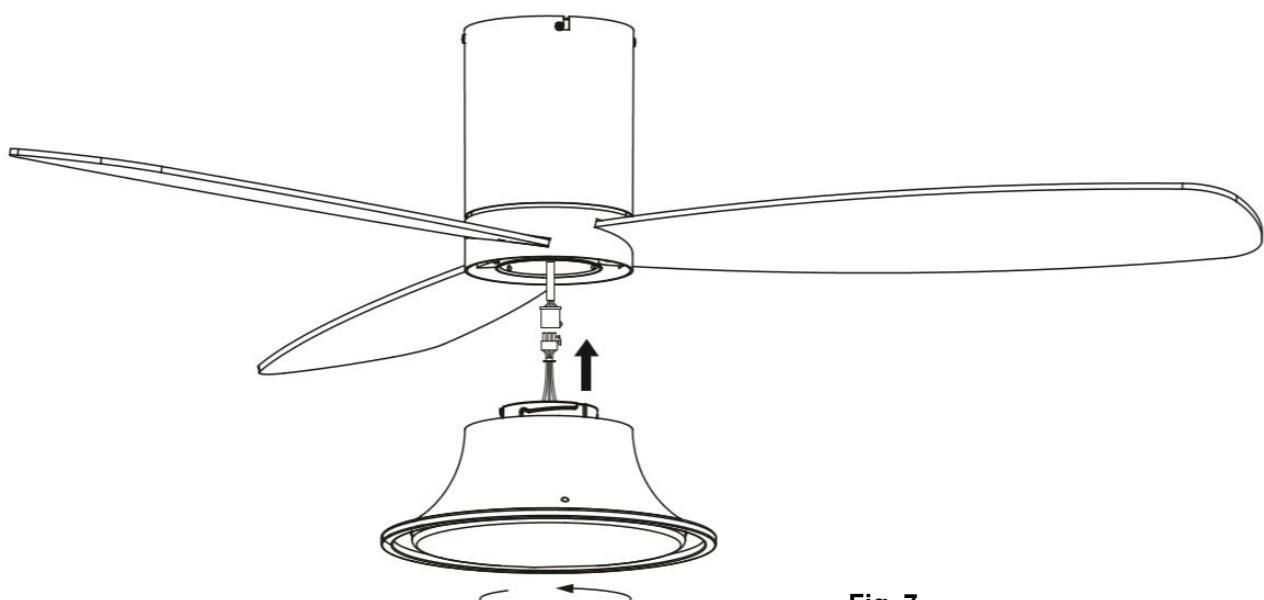

Fig. 7
**INSTALLATION DU KIT D'ÉCLAIRAGE LED ( FIG.7)**